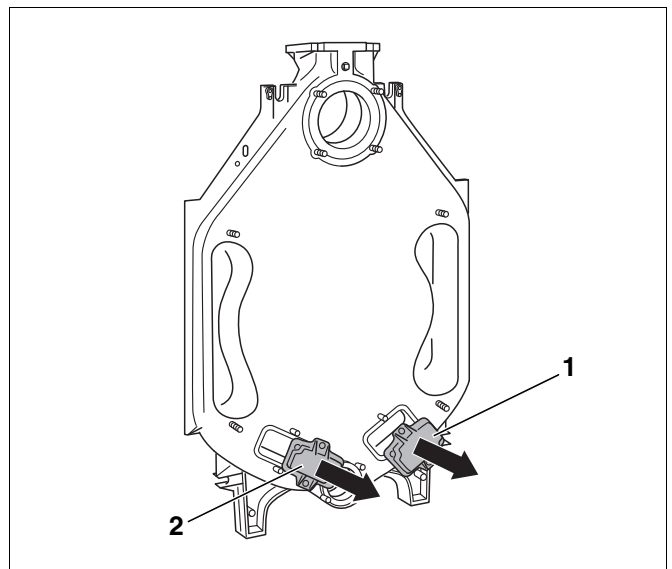

Fig. 10 Remove the cleaning access cover.
- Unscrew cleaning access cover on rear section (Fig. 10, [1] and [2]).